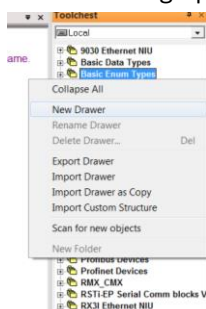

Figure 33: Pop-up Menu for Local
3. In the *Toolchest*, click on *Local* from the dropdown list. Then right-click anywhere in the items that are displayed. This will produce a pop-up menu like the graphic shown in Figure 33: